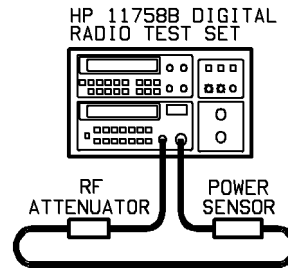

Figure 3-14. Calibration Setup
- a. Set up the power meter as shown in Figure 3-14.